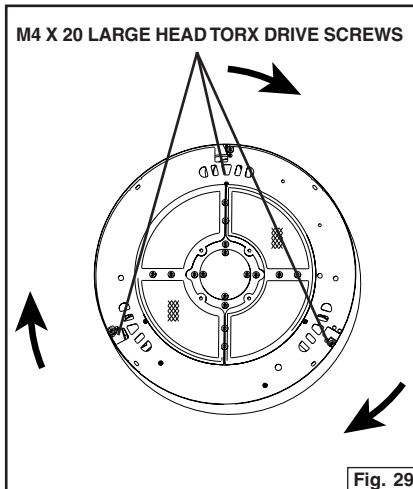

Fig. 29
2. Turn the Decorative Shroud so that the shroud holes match up with the flange holes. Secure the Shroud with (3) M4 x 20 Large Head Torx Drive Screws. Fig. 29. Remove the protective coating. Repeat for the second shroud.